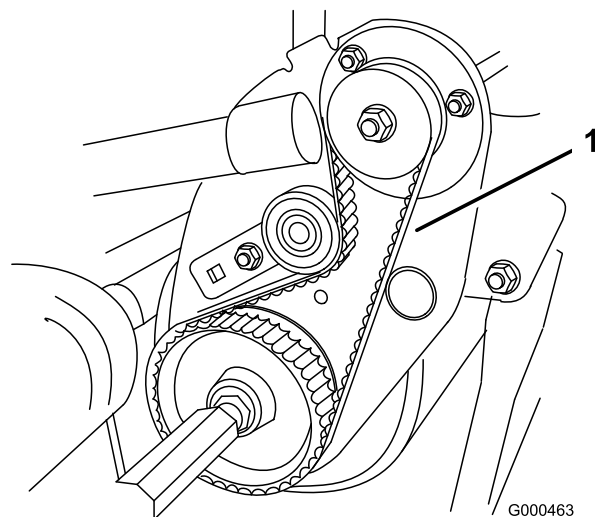

Figure 41
2. Check tension by depressing belt (Figure 41) at mid span of pulleys with 4 ± 1 lb. of force. Belt should deflect 1/4 inch. If deflection is incorrect, proceed to next step.